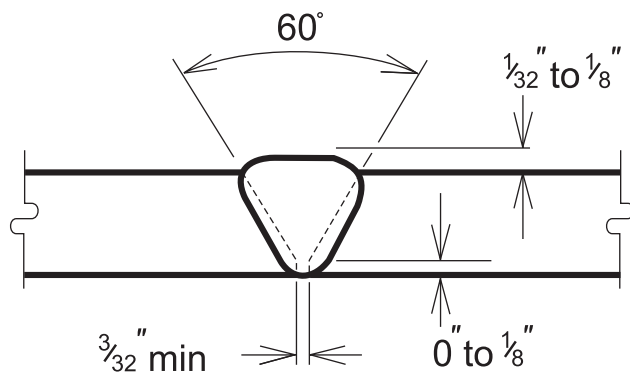

Figure 1. B-P2 - Single Vee Groove
8. Remove crack and/or defective material with air carbon arc process or equivalent while creating a weld joint consistent with AWS B-P2 for flat position welding or AWS B-P4 when welding in the vertical position. See Figures 1 & 2 below.